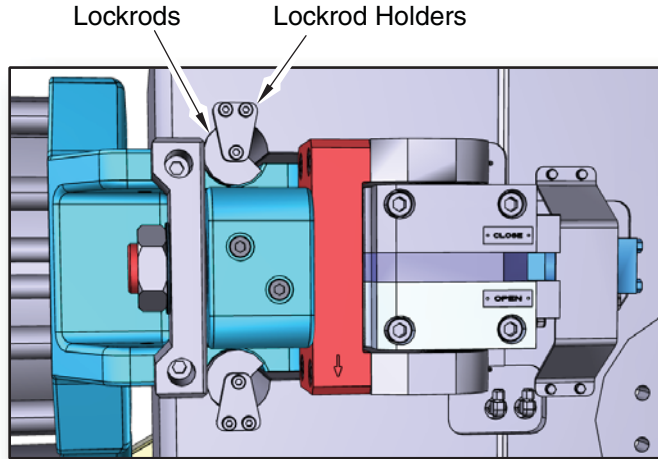

Figure 5-26. Lockrod and Holder — Door Rotation Assembly Side
12. On the door hinge side of the BOP, remove the two lockrod holders by first removing the three $\frac{5}{8}$ " shoulder screws from each holder (see Figure 5-26).